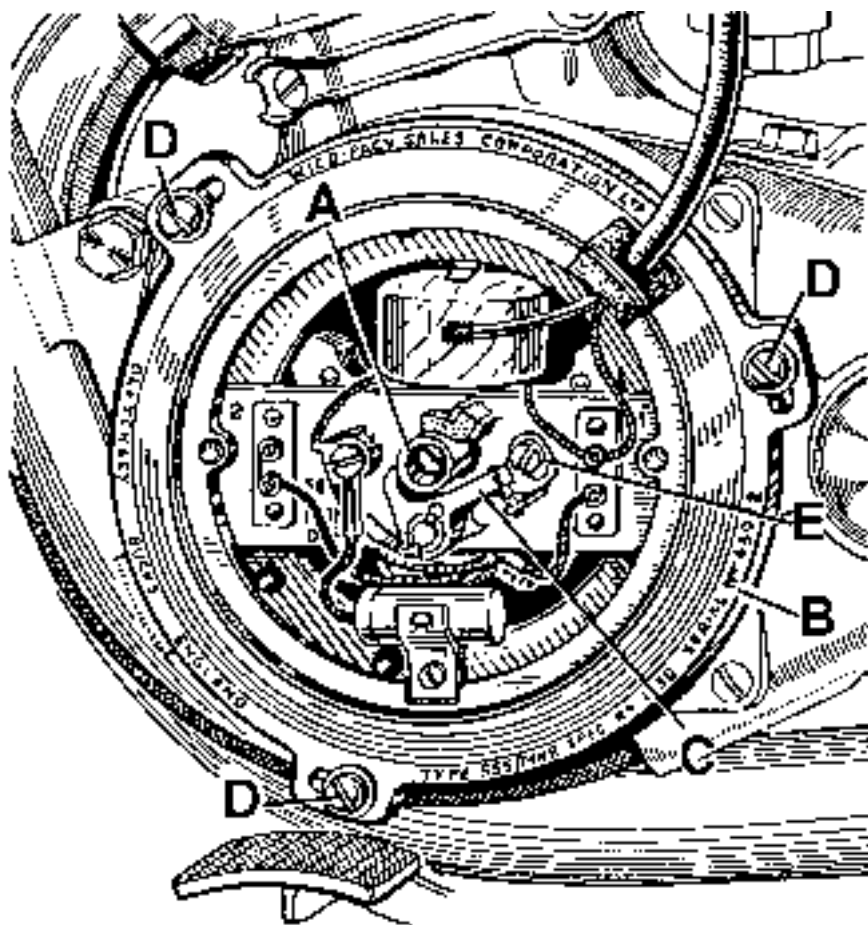

FIG. 2. *Contact Breaker*
The ignition timing is accurately set within very close limits and there is no manual adjustment for the rider as this has been found quite unnecessary in practice. The contact breaker cam (A) Fig. 2, is keyed on to an extension of the mainshaft, and its position with reference to the piston position is therefore constant.
Any variation in timing can only be secured by moving the contact breaker housing (B) Fig. 2, or the rocker arm (C). The former can be rotated through a very small angle by releasing the screws (D), not forgetting to retighten them after the adjustment has been made. It is emphasised that this is a works adjustment rather than one which the private owner is ever likely to carry out.